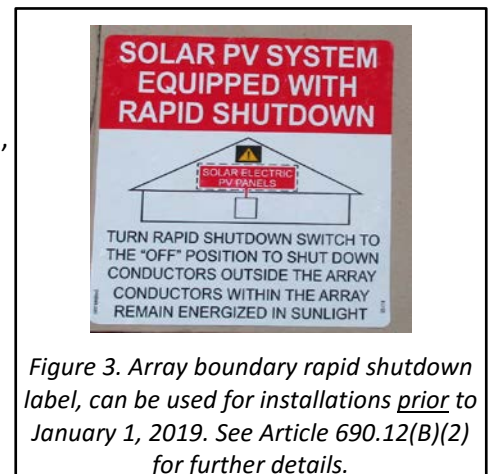

Figure 3. Array boundary rapid shutdown label, can be used for installations *prior* to January 1, 2019. See Article 690.12(B)(2) for further details.
- White lettering, red background, minimum 3/8” capitalized letters, including a diagram of a building with a roof (figure 3).